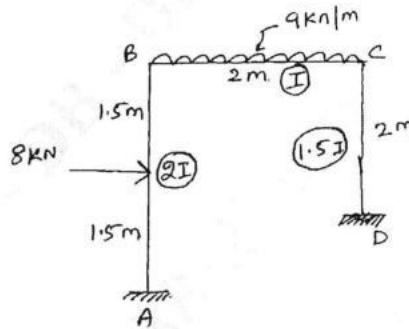

Fig. Q2
- 2 Analyze the portal Frame shown in Fig. Q2 by slope deflection method. Draw BMD. (16 Marks)